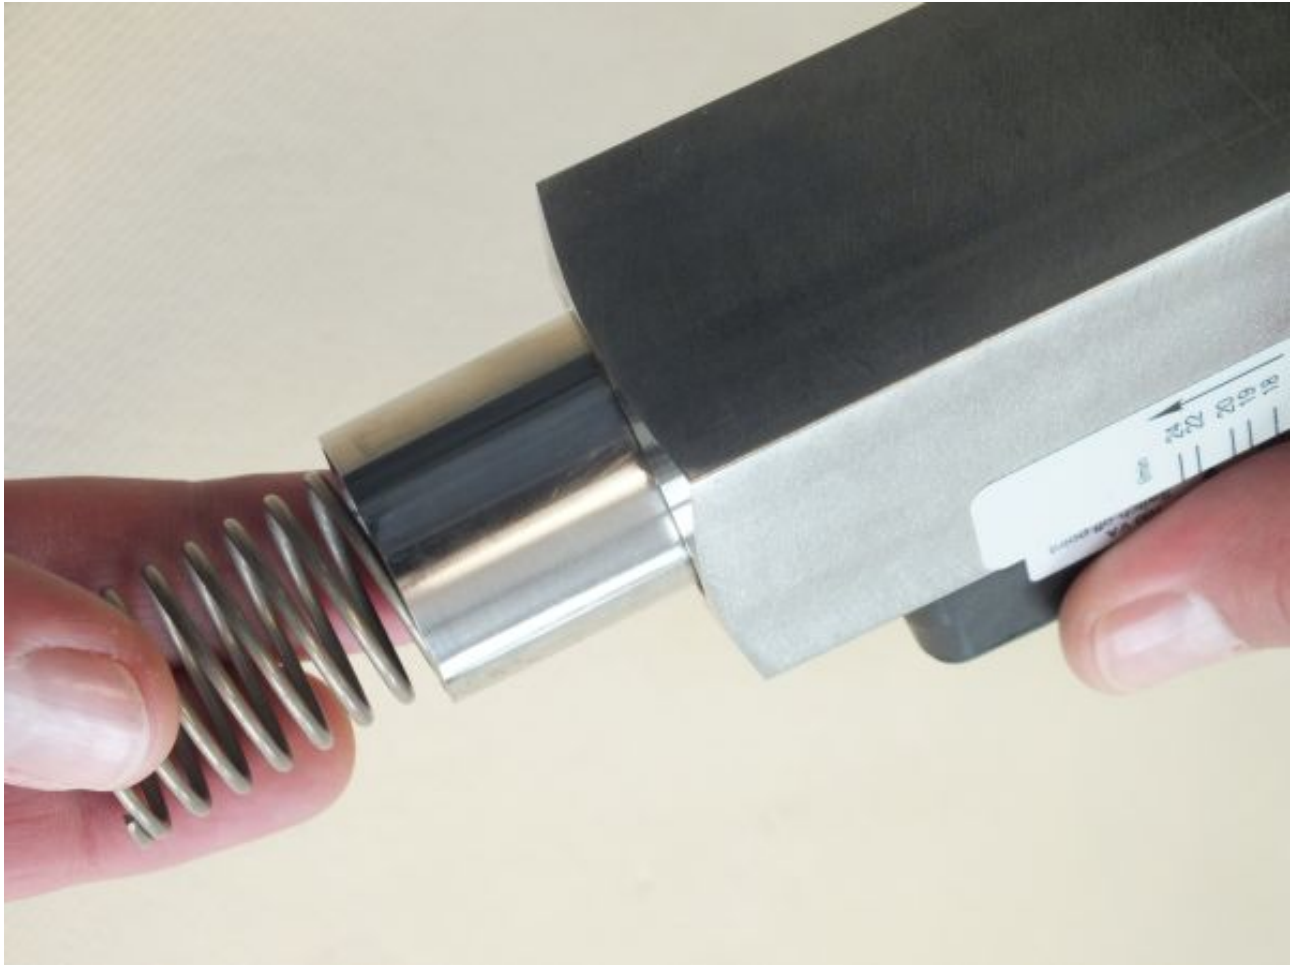

Fig. 53: Remove inner parts
11. ➤ Carefully turn the device body 180° and remove the inner parts (float, magnets and spring) (Fig. 53)